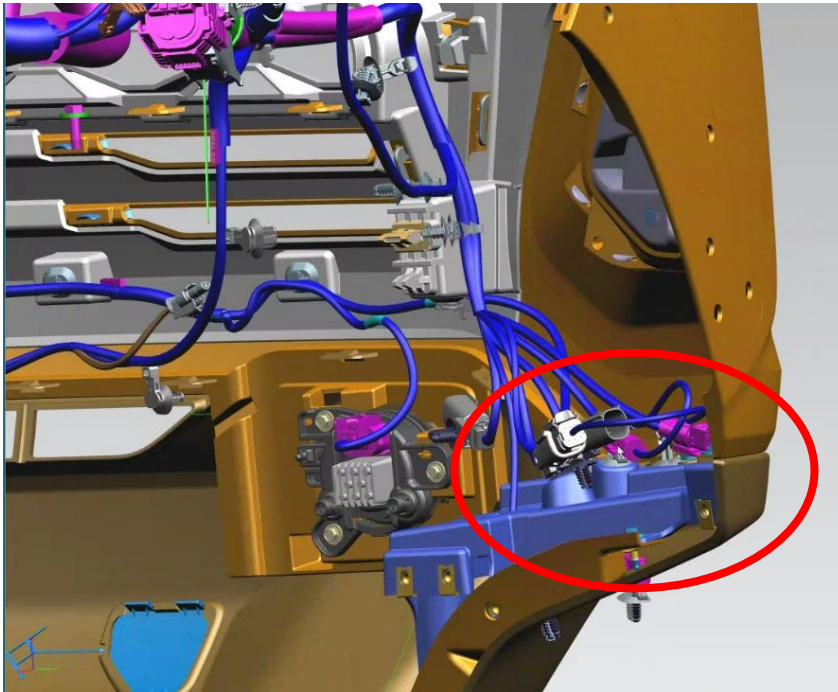

Figure 4 - Passenger Side of Vehicle
- a. Disconnect Front Camera and Fog Lamp Harness before fully taking off - Fig 4.